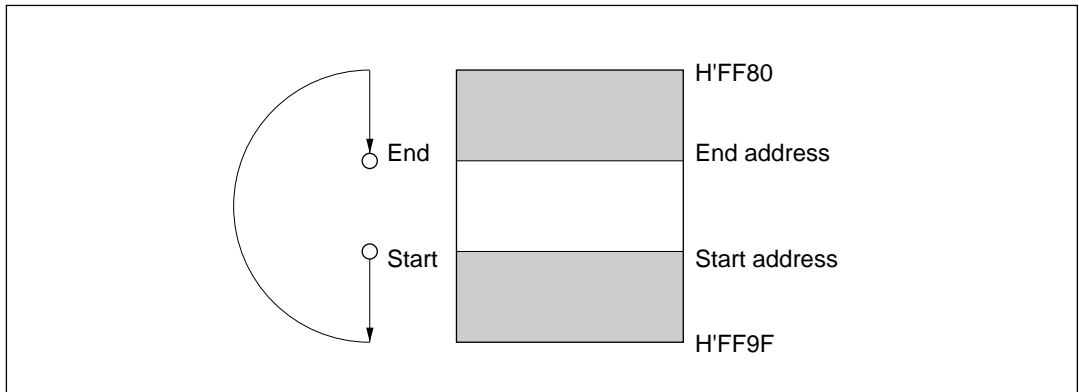

Figure 10-3-4 Operation When End Address is Smaller than Start Address
3. The start and end addresses of the transfer data area are set in `STAR` and `EDAR`. If the end address is set smaller than the start address, as shown in figure 10-3-4, the transfer wraps around from `H'FF9F` to `H'FF80` and continues to the end address. If the start address and end address are the same, only one byte of data will be transferred.